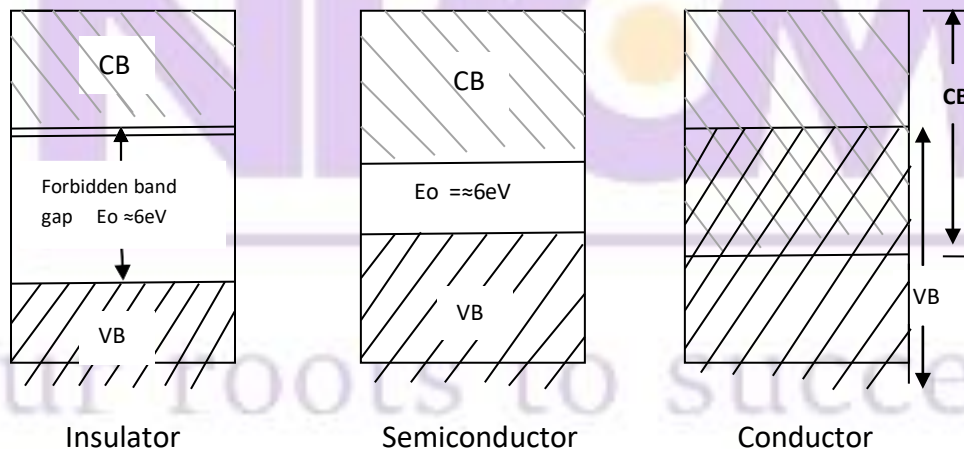

FIG:1.1 Energy band diagrams insulator, semiconductor and conductor
**Insulator:** An insulator is a material that offers a very low level (or negligible) of conductivity when voltage is applied. Eg: Paper, Mica, glass, quartz. Typical resistivity level of an insulator is of the order of  $10^{10}$  to  $10^{12}$   $\Omega$ -cm. The energy band structure of an insulator is shown in the fig.1.1. Band structure of a material defines the band of energy levels that an electron can occupy. Valance band is the range of electron energy where the electron remain bended too the atom and do not contribute to the electric current. Conduction bend is the range of electron energies higher than valance band where electrons are free to accelerate under the influence of external voltage source resulting in the flow of charge.
For an insulator, as shown in the fig.1.1 there is a large forbidden band gap of greater than 5Ev. Because of this large gap there a very few electrons in the CB and hence the conductivity of insulator is poor. Even an increase in temperature or applied electric field is insufficient to transfer electrons from VB to CB.
**Conductors:** A conductor is a material which supports a generous flow of charge when a voltage is applied across its terminals. i.e. it has very high conductivity. Eg: Copper, Aluminum, Silver, Gold. The resistivity of a conductor is in the order of  $10^{-4}$  and  $10^{-6}$   $\Omega$ -cm. The Valance and conduction bands overlap (fig1.1) and there is no energy gap for the electrons to move from valance band to conduction band. This implies that there are free electrons in CB even at absolute zero temperature (0K). Therefore at room temperature when electric field is applied large current flows through the conductor.